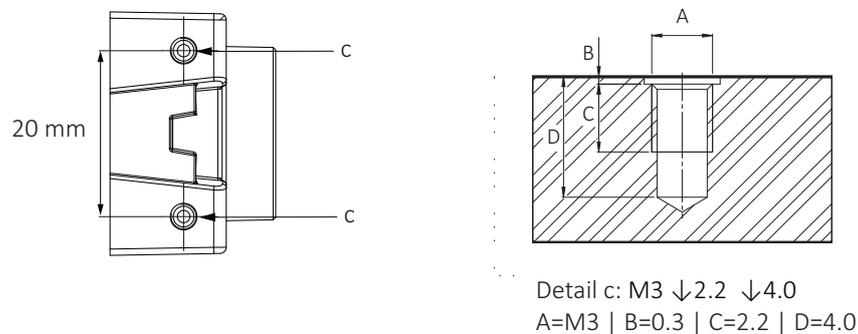

Figure 66: Top and bottom and mounting threads (c)
1. Mount the camera to the base using suitable M3 screws at 0.51 Nm maximum torque for a thread engagement (C) of 2.2 mm between screws and mounting threads, see Figure 66. For technical drawings, see Dimensions and mass on page 132.